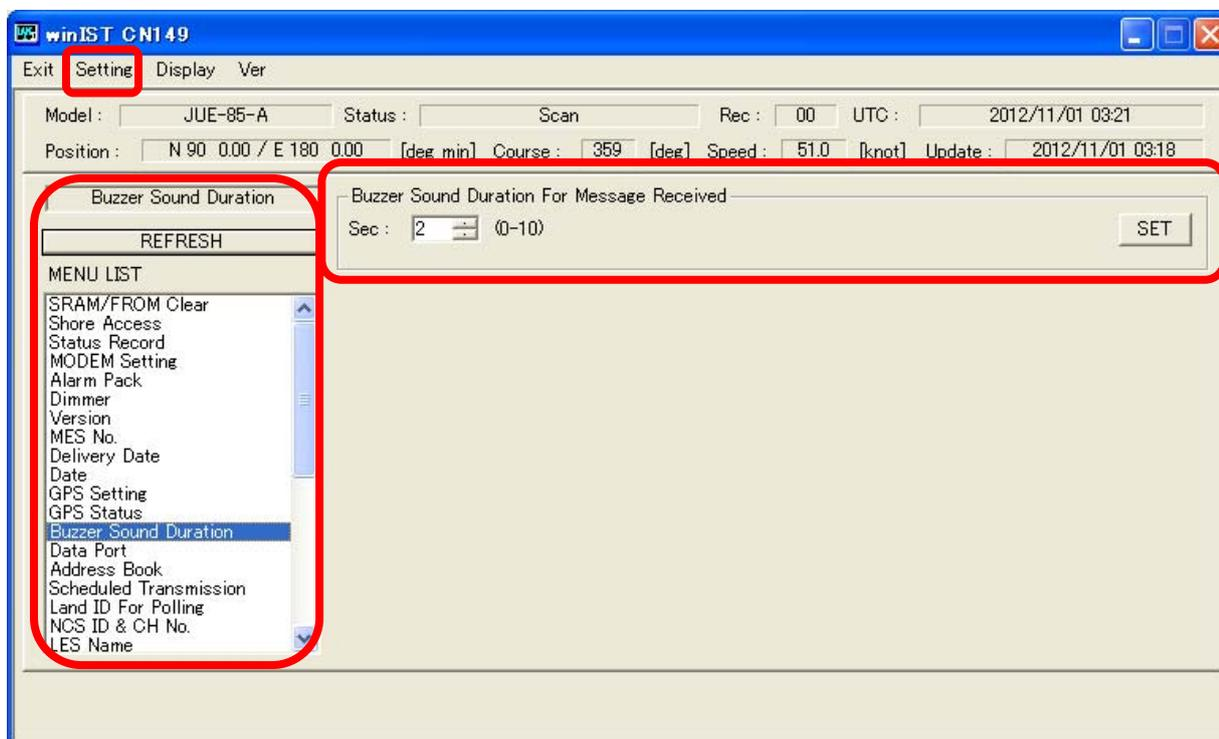

Fig. 4-14-1 [Buzzer Sound Duration] screen
2. Operation except [Exit], [Display], and/or [Ver] is not possible while winIST is communicating with INMARSAT terminal(the function in the frame of **Fig. 4-14-1 [Buzzer Sound Duration] screen** cannot be operated.)